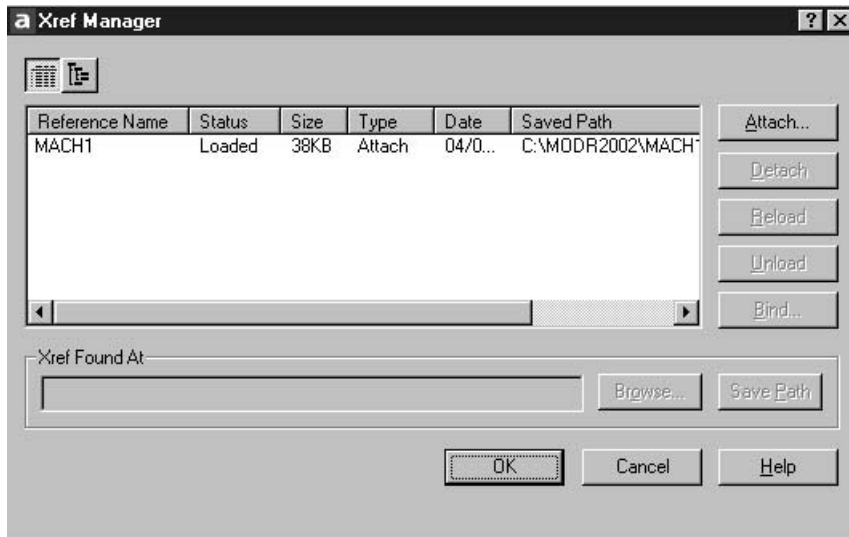

Figure 42.5 The Xref Manager dialogue box for MACH1.
- with* MACH1 listed (Fig. 42.5)